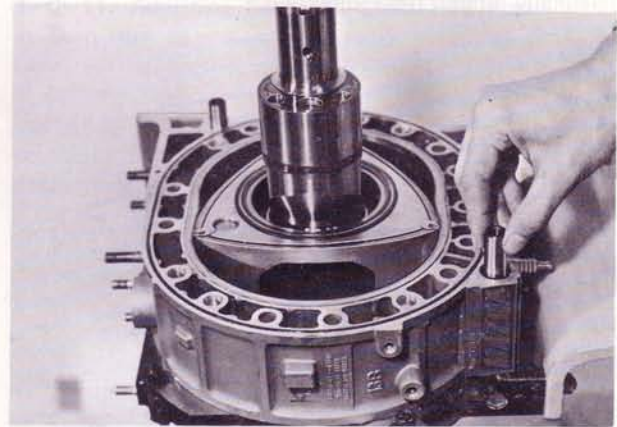

Fig. 1-69 Installing tubular dowel
4. Apply engine lubricant onto the tubular dowels and insert the tubular dowels through the front rotor housing holes into the front housing holes as shown in Fig. 1-69.